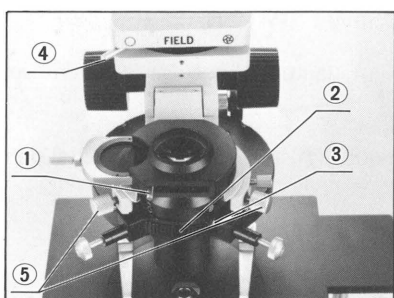

Fig. 6
- 2) Slide the polarizer sliding knob ① to the left side, and remove the polarizer out of the light path. (Fig. 6)
- 3) Align the turret ② to the brightfield position "0".
★ It is suggested to stop down the aperture iris diaphragm ③ for easier focusing of unstained specimens. (Fig. 6)
- 5) Stop down the field iris diaphragm to the minimum by means of the lever ④. Rotate the condenser height adjustment knob until the image of the field diaphragm is visible sharply in the field of view. (Figs. 6, 7)
- 6) Bring the image of the field diaphragm into the center of the field by means of the condenser centering knobs ⑤. Re-open the diaphragm until the small ring of the diaphragm becomes a larger polygonal ring around the circular edge of the field. (Figs. 6, 7)